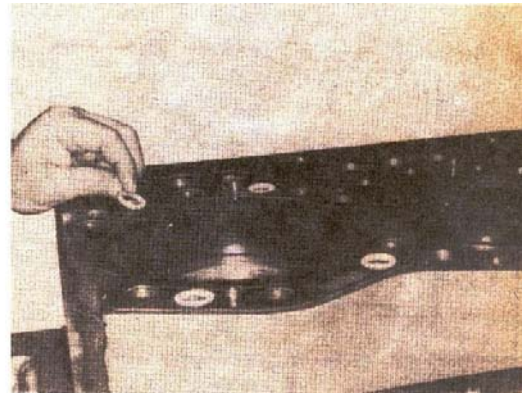

Fig. 14-27, Install the cylinder head grommets
2. Put the water, oil and push rod-grommets into position in each cylinder head gasket. Fig. 14-27. One capscrew hole in each gasket, on the camshaft side of the engine, requires a grommet.